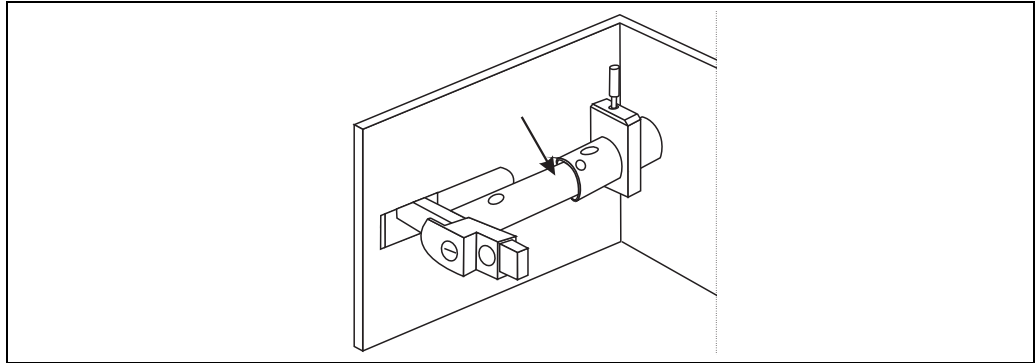

Figure 1: Source holder rod
1. Wipe along the annular gap (see figure 1) between the protection pipe and the source holder rod. This may be conducted when the source holder is in ON position acc. to the operation manual.